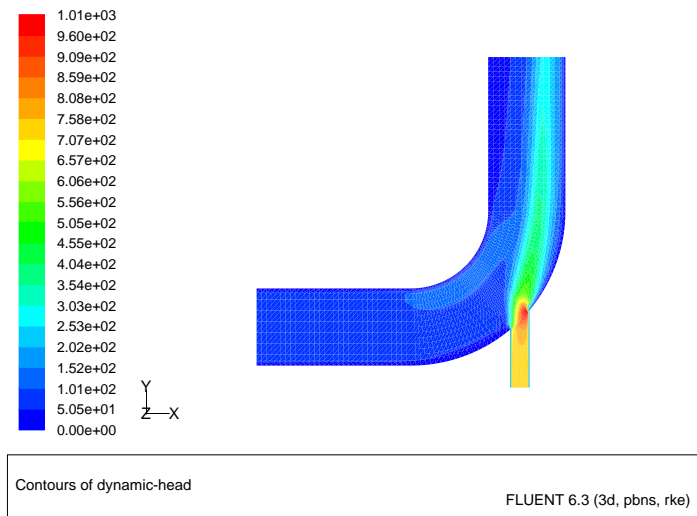

Figure 1.10: Contours of the Dynamic Head Custom Field Function
7. Display filled contours of the custom field function (Figure 1.10).